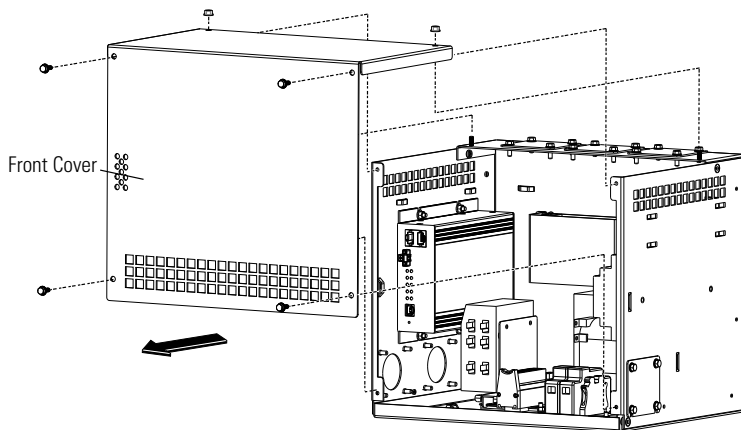

Figure 4. Remove Front Cover
2. Remove the front cover (see Figure 4).